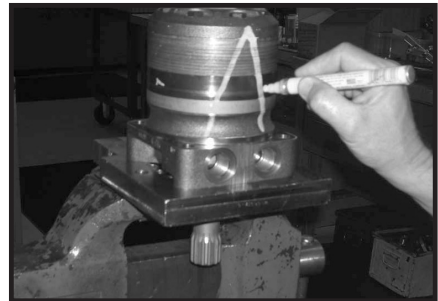

Figure 2
1. Place the Torqmotor™ in a soft jawed vise, with coupling shaft (12) pointed down and the vise jaws clamping firmly on the sides of the housing (18) mounting flange or port bosses. Remove manifold port O-Rings (18A) if applicable.
2. Scribe an alignment mark down and across the Torqmotor™ components from end cover (2) to housing (18) to facilitate reassembly orientation where required. Loosen two shuttle or relief valve plugs (21) for disassembly later if included in end cover. 3/16 or 3/8 inch Allen wrench or 1 inch hex socket required. SEE FIGURES 2 & 3.